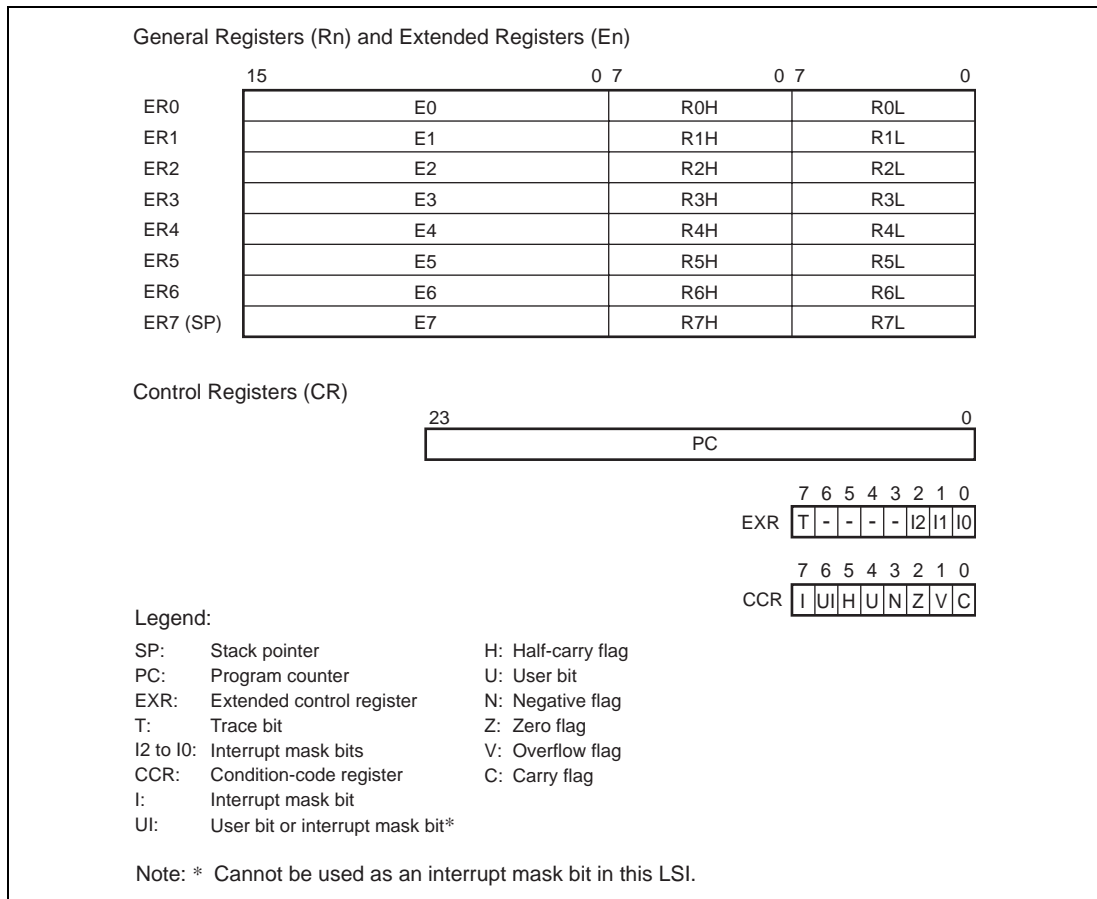

Figure 2.6 CPU Registers
The H8S/2000 CPU has the internal registers shown in figure 2.6. There are two types of registers: general registers and control registers. Control registers are a 24-bit program counter (PC), an 8-bit extended control register (EXR), and an 8-bit condition code register (CCR).